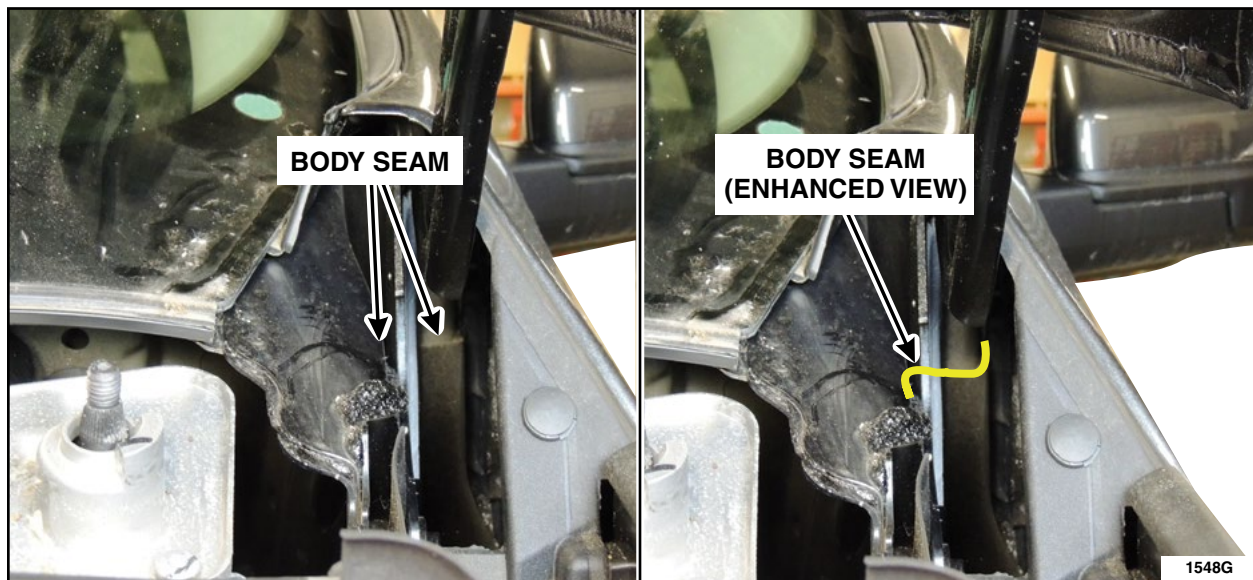

FIGURE 9
3. Open the hood and locate the body seam that runs behind the hood hinge at the base of the exterior A-pillar on both the RH and LH sides of the vehicle. See Figures 9 and 10.
4. Use a flashlight to locate the body seam that runs behind and along the side of the LH and RH hood hinges. Apply a bead of sealer to the body seam. See Figures 9, 10 and 11.